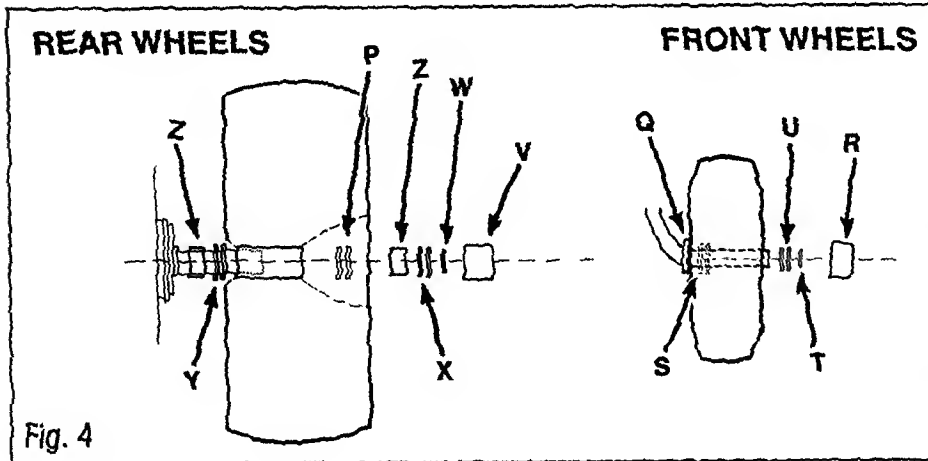

Fig. 4
2. Place spacer (Z, Fig. 4) onto each side of rear axle.
3. Place two 1-1/4" flat washers (Y) on each side of rear axle and install wheels.
5. **RIGHT SIDE OF AXLE:** Place two 1-1/4" washers (P) and second spacer (Z) on right axle. Place two 1-1/2" shim washers (X) on the right axle and secure with retaining ring (W).